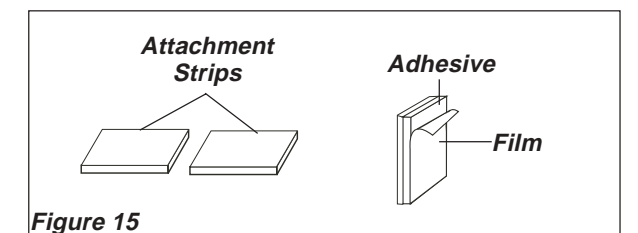

Figure 15
10. Your Remote Pedestal Fan has also been provided with **Attachment Strips**. Remove the **Film** from rear of Attachment Strip and adhere to remote. Remove Film from rear of the other Attachment Strip and adhere to your fan. Now you can store your remote control when not in use. **(Figure 15)**